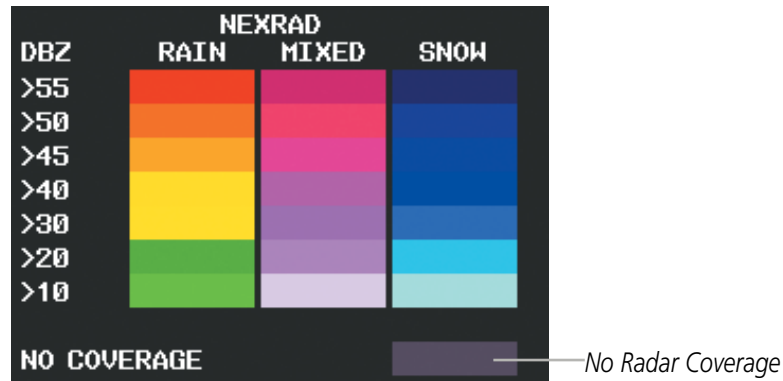

Figure 6-11 NEXRAD Legend
- 1) Select the **MAP** Softkey. This step is not necessary on the Weather Data Link (XM) Page.
Composite data from all the NEXRAD radar sites in the United States is shown. This data is composed of the maximum reflectivity from the individual radar sweeps. The display of the information is color-coded to indicate the weather severity level. All weather product legends can be viewed on the Weather Data Link (XM) Page. For the NEXRAD legend (Figure 6-11), select the **LEGEND** Softkey when NEXRAD is selected for display.